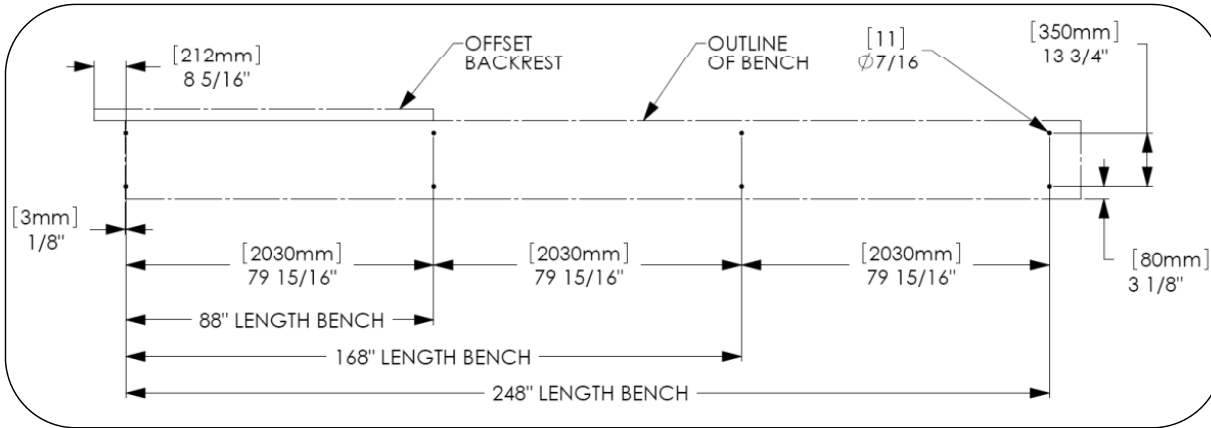

Fig. 2 – Anchor locations
1. Drill holes as shown in Fig. 2 as required per specified bench. Clear holes of debris.